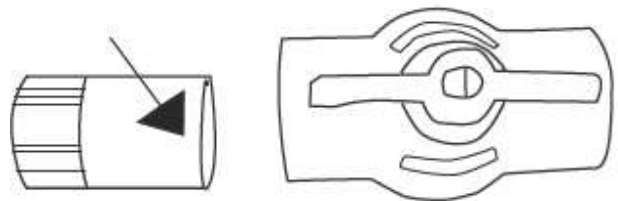

**Figure 15**
- 17) Apply PVC glue to one socket of the (#2) PVC Ball Valve and insert the PVC hose into the valve as shown in Figure 15. Allow the glue sufficient time to dry. The final step is joining the PVC Ball Valve to the water source.